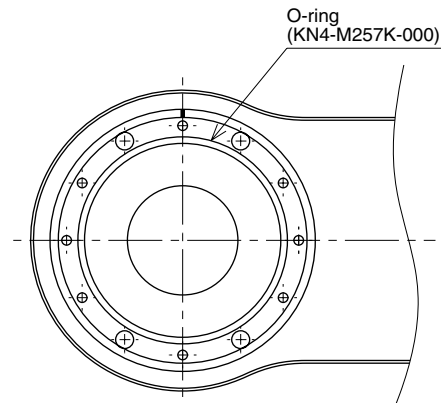

Fig. 5-26
AN O-RING IS FITTED TO THE UPPER SURFACE OF THE X-AXIS, SO BE CAREFUL NOT TO LET IT DROP INTO THE PERIPHERAL UNIT. (SEE FIG. 5-26.)
- 13) Fit a new O-ring coated with harmonic grease into the O-ring groove on the X-axis arm. (See Fig. 5-26.)